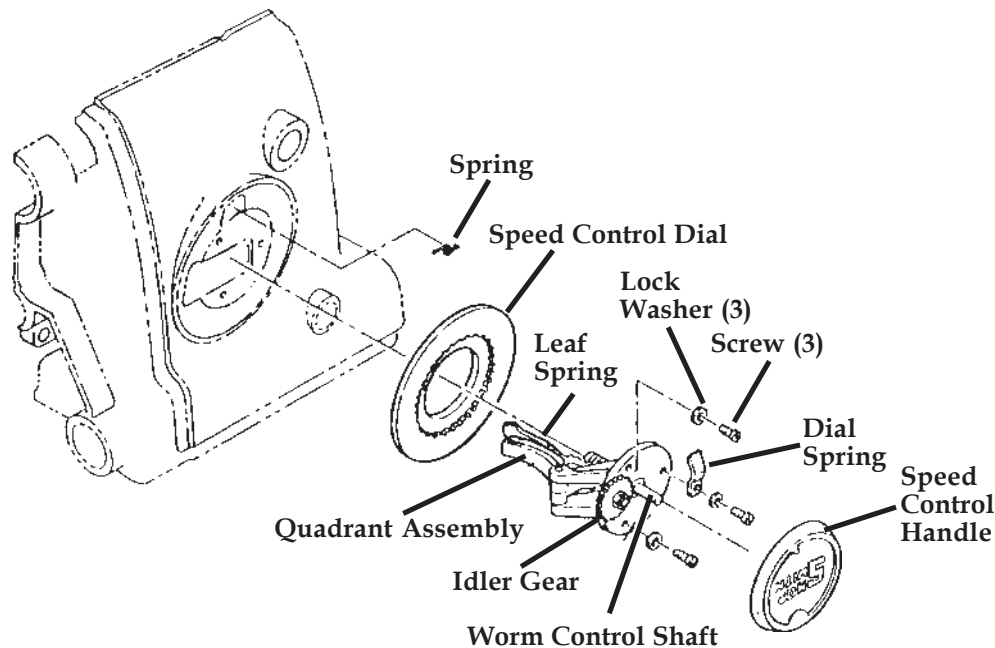

Figure D-13
28. Fine sawdust can accumulate on various parts of the speed changing mechanism and interfere with its operation, even if you blow out the headstock regularly. If the speed dial becomes hard to turn and lubricating the motor shaft and idler shaft does not relieve the problem, clean the speed changing mechanism according to the following procedure. See Figure D-13 and the Parts List to identify parts.